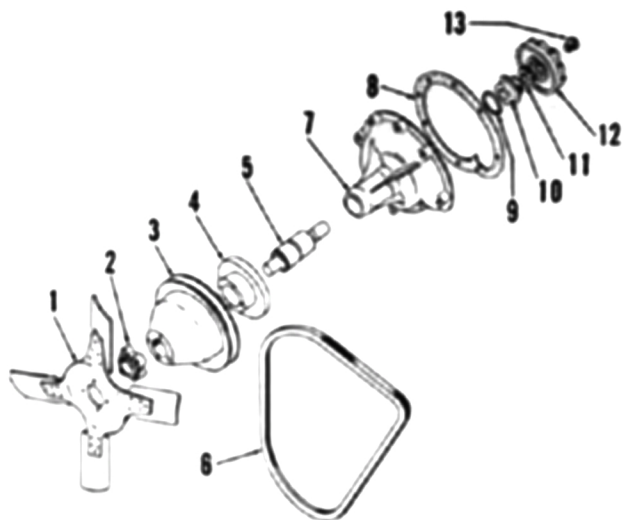

Fig. 51—Exploded view of typical water pump assembly used on all models.
66. R&R AND OVERHAUL. To remove the water pump, first drain cooling system, then remove hood. Loosen alternator mounting bolts and remove the drive belt. Unbolt and remove fan (1—Fig. 51), spacer (2) and pulley (3). Remove cap screws securing pump body (7) to water pump carrier. Then, remove pump from tractor.